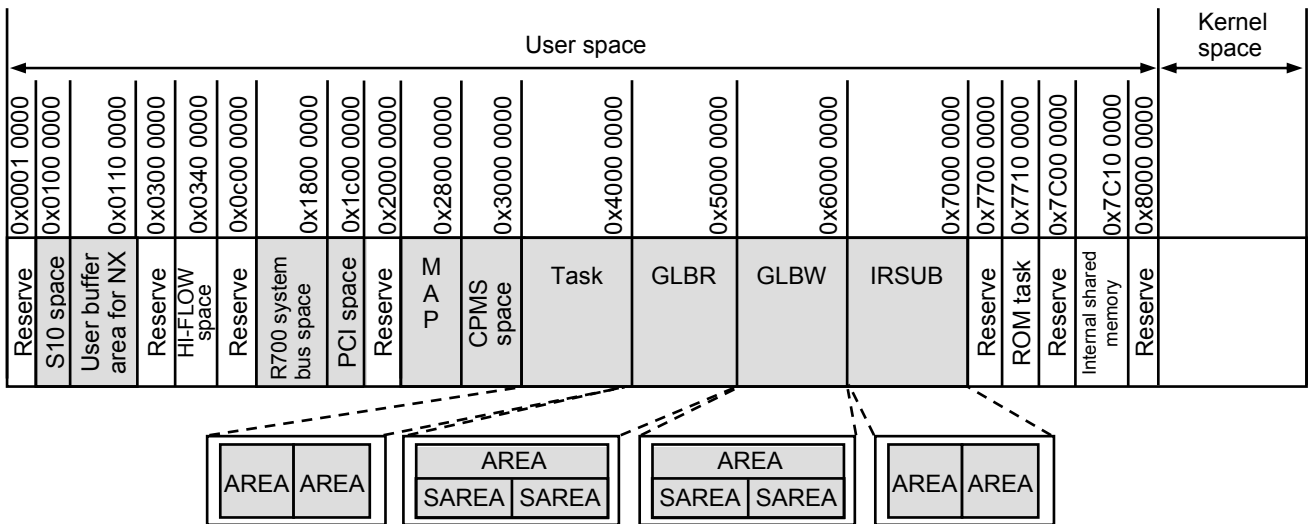

Figure 3-26 ADT-settable Ranges
- The ADT can be set in the shaded ranges shown in Figure 3-26. The ADT cannot be set in an unmapped area.